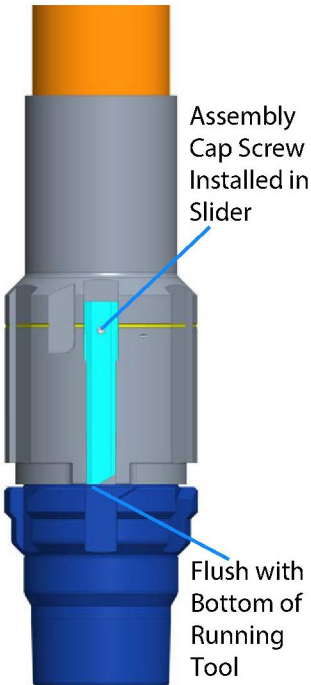

Figure 13
3. Remove the 3/8" hex head assembly cap screws from the running tool body and install into slider. Remove the threaded shear pin with a flat head screw driver. Lift the sliders so the bottom of the slider sits above or flush with the bottom of the running tool body (see Figure 13. Tighten the assembly cap screw to keep the sliders in the raised position.
22. Install the assembly cap screws back into the upper holes on the running tool body. See Figure 13.